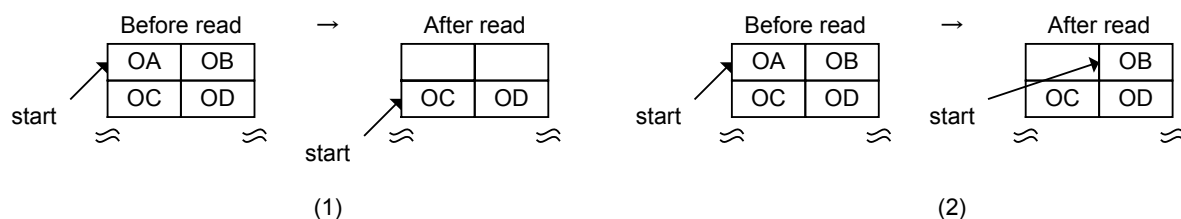

Fig. 6.74 FIFO read processing (normal operations)
The manner of how data is read wordwise when no byte boundaries exist is shown in (1) of Fig. 6.74. Data A,B and then data C,D are read each time the FIFO is accessed. The manner of how data is read bytewise is shown in (2) of Fig. 6.74. Data A, data B, data C, and data D are read each time the FIFO is accessed. Described above are the normal read operations.